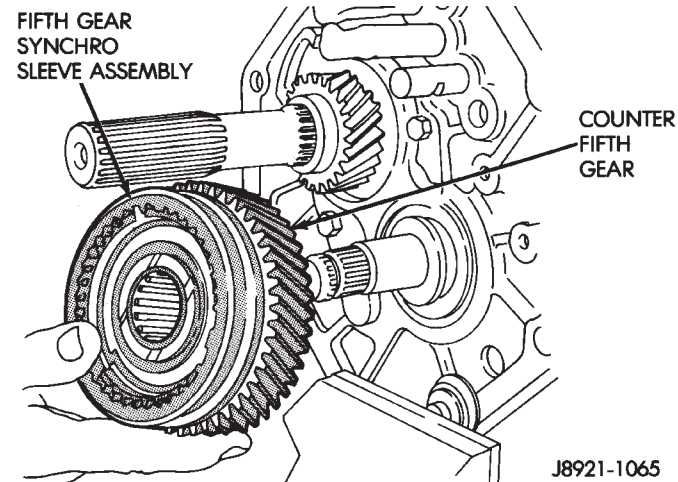

Fig. 35 Removing Counter Fifth Gear And Synchro Assembly
(16) Remove fifth gear synchro and sleeve assembly (Fig. 35).